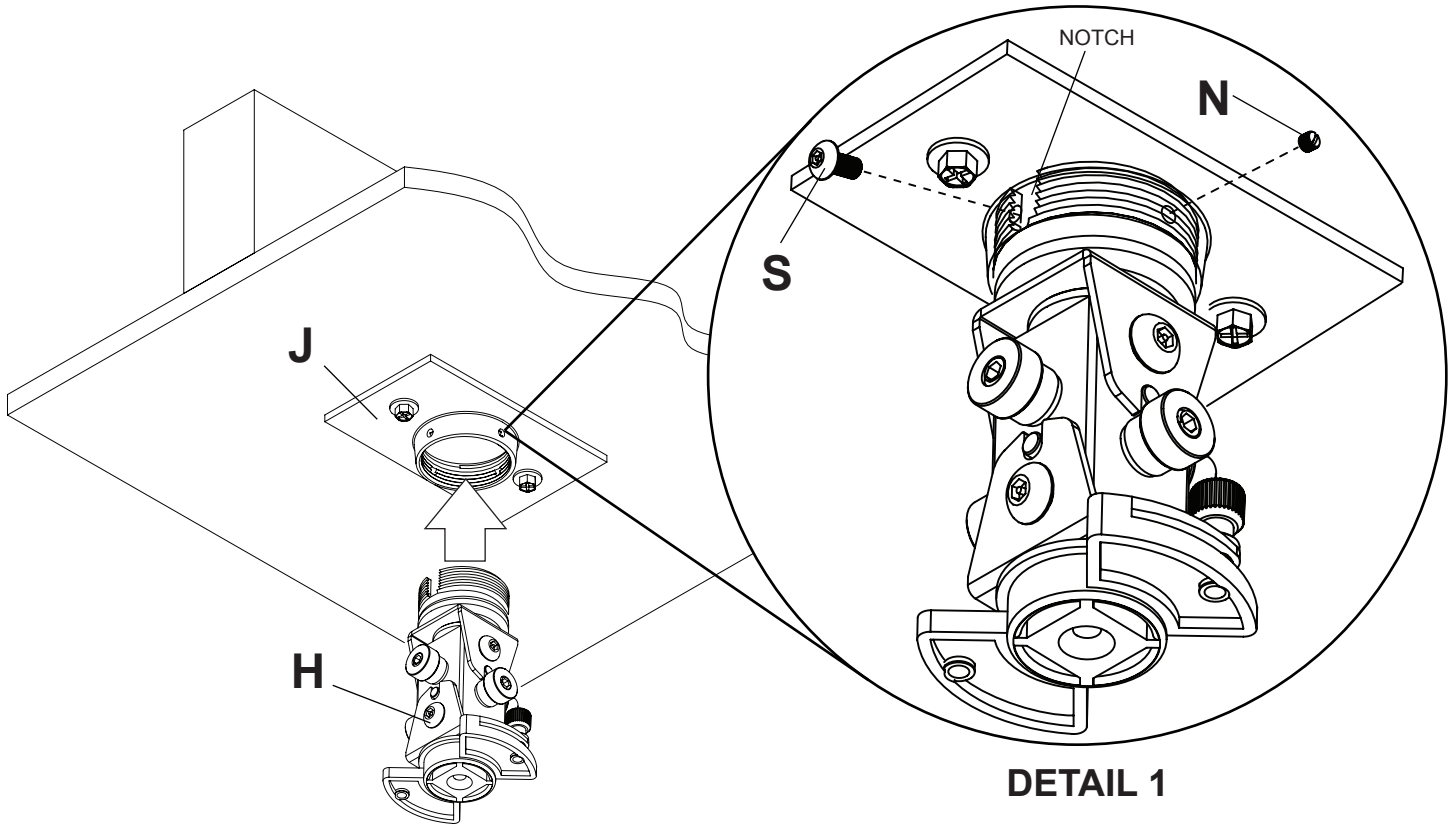

fig. 2.1
- Hand thread projector mount assembly (**H**) into ceiling plate (**J**) as shown in figure 2.1. Align the notch of projector mount assembly with one of the four holes in ceiling plate (**J**) and secure with an M5 x 10 mm socket pin screw (**S**) as shown in detail 1.